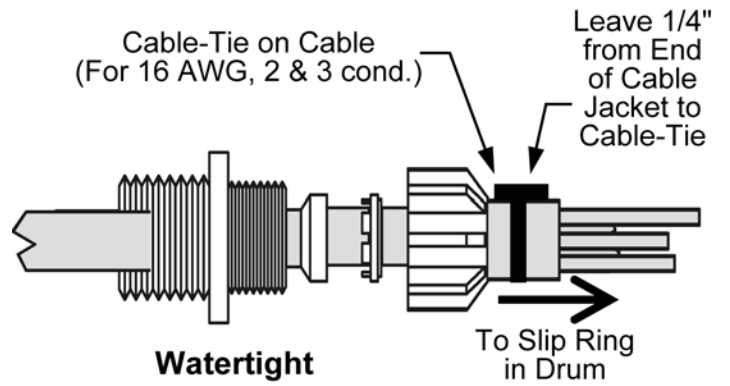

Figure 1
2.5.4 Strip the cable jacket back approximately 10" from end of cable and thread it through the cable entrance watertight into the drum of the reel. We recommend a cable-tie on 16 AWG, 2 and 3 conductor cable (see Figure 1 on page 9).